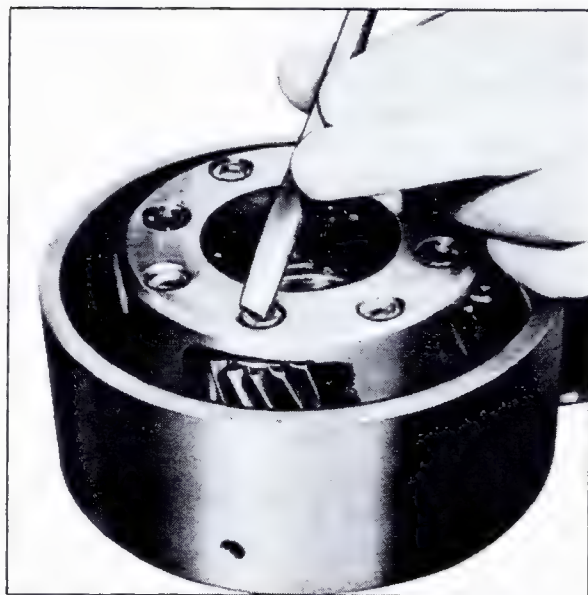

Fig. 7-180 Staking Pinion Pin
j. Using a punch in bench vise for an anvil, stake opposite end of pinion pin in three places with a blunt radius chisel, Fig. 7-180.